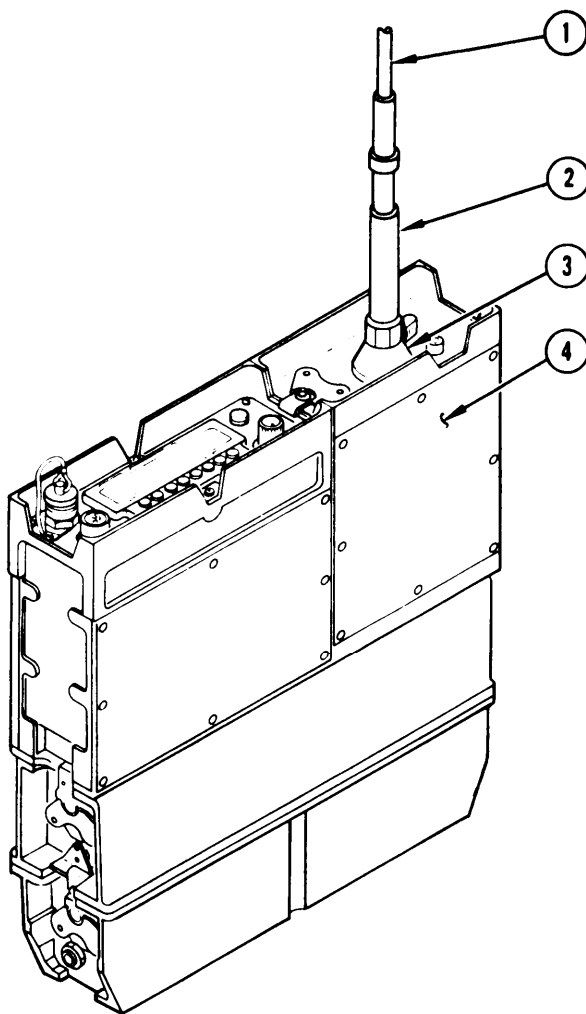

Figure 2-2. Manpack Whip Antenna Installation
**MANPACK WHIP ANTENNA INSTALLATION, fig 2-2**
1. Attach whip antenna (1) to antenna shock mount (2).
2. Attach antenna shock mount (2) (with whip antenna (1) attached) to antenna socket (3) on amplifier/coupler (4).